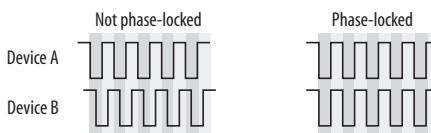

Figure 3-14: When transferring audio, two devices must have phase-locked audio clocks to prevent clicks, pops or other artifacts.
- Synchronizing the 828mk3 with other digital audio devices so that their digital audio clocks are *phase-locked* (as shown in Figure 3-14)